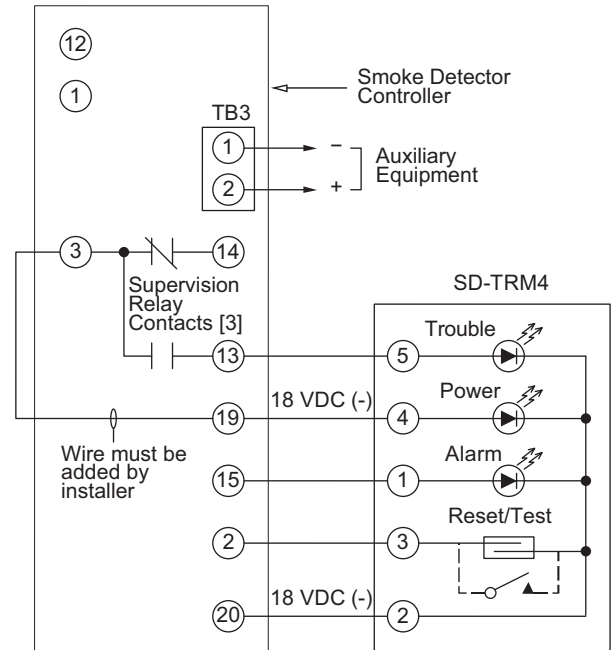

Fig. 42 — Remote Test/Reset Station Connections
The test/reset station dirty sensor test checks the test/reset station's ability to initiate a sensor dirty test and indicate the results. It must be wired to the controller as shown in Fig. 42 and configured to operate the controller's supervision relay. For more information, see "Dirty Sensor Test" on page 32.
1. Verify that the remote test/station is wired as shown in Fig. 42. Repair or replace loose or missing wiring.